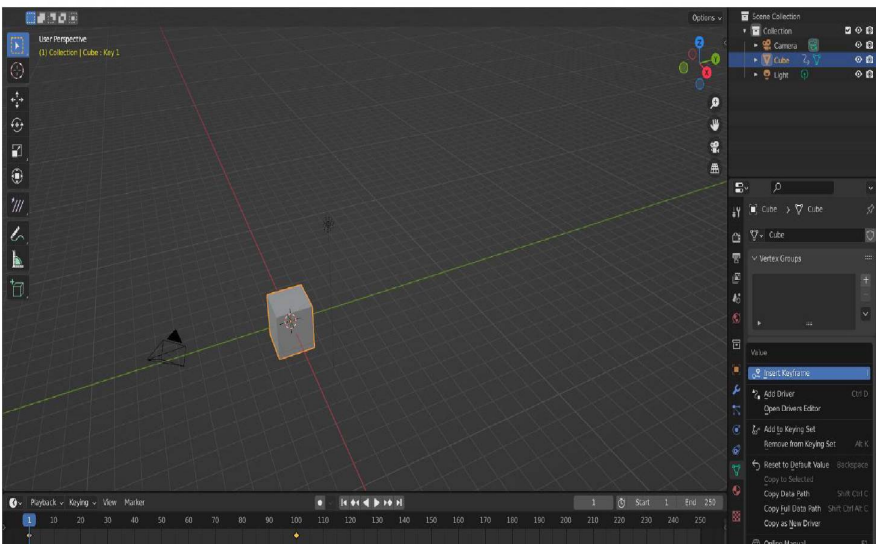

Figure 8.8: Inserting a Keyframe for the selected Shape Key Value 0.000
7. In the **Shape Keys** section of the **Object Data Properties** tab, with **Key 1** selected, move the mouse cursor over the **Value** range below the **Shape Keys**, right-click, and choose **Insert Keyframe** as shown in *Figure 8.8*: